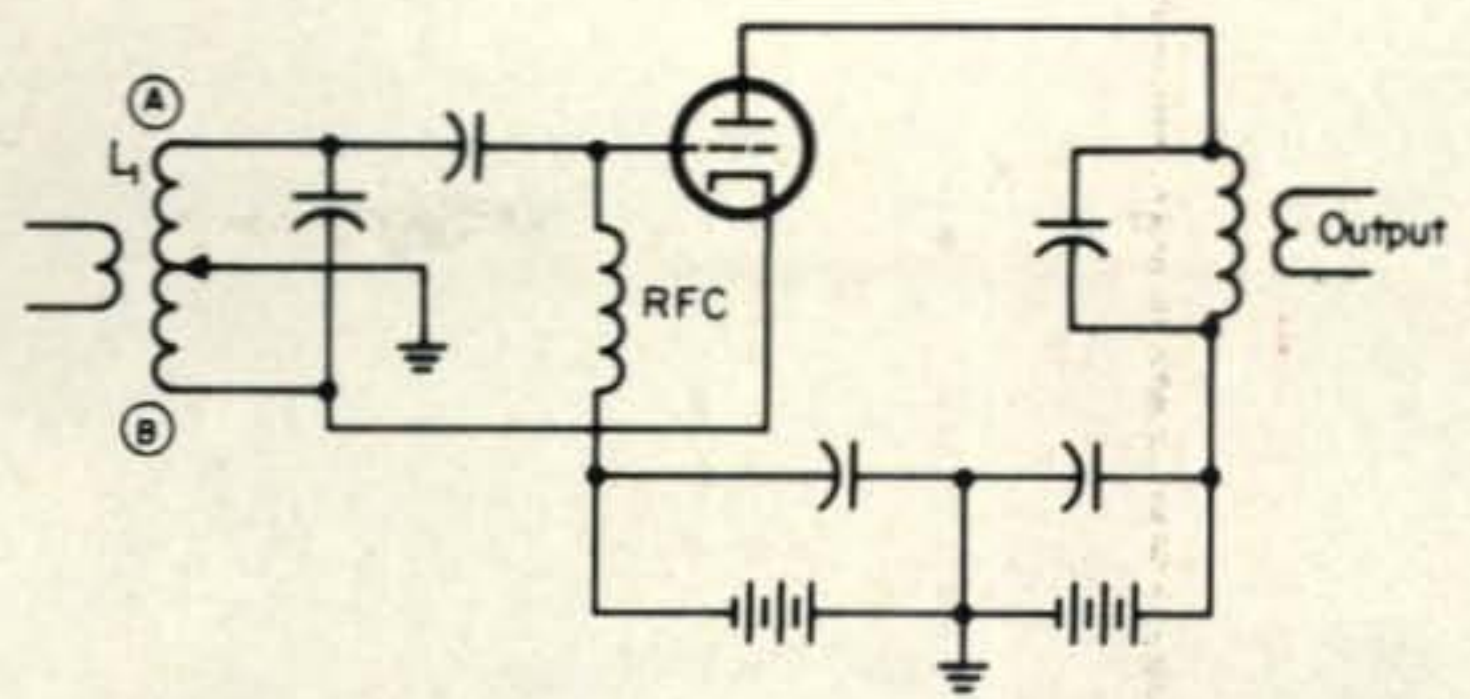

Fig. 3—Typical circuit for a semi-cathode-driven amplifier.
Figure 3 shows a compromise or combination of grid and cathode drive called semi-cathode drive. By moving the tap on L^1 to one extreme end (A), full cathode drive is attained; end (B) provides full grid drive. This setting of this tap will vary the converted drive power (maximum at A), stage gain (Minimum at A) and total drive power required (maximum at A). This arrangement can be used to match the required drive to that available from the exciter.